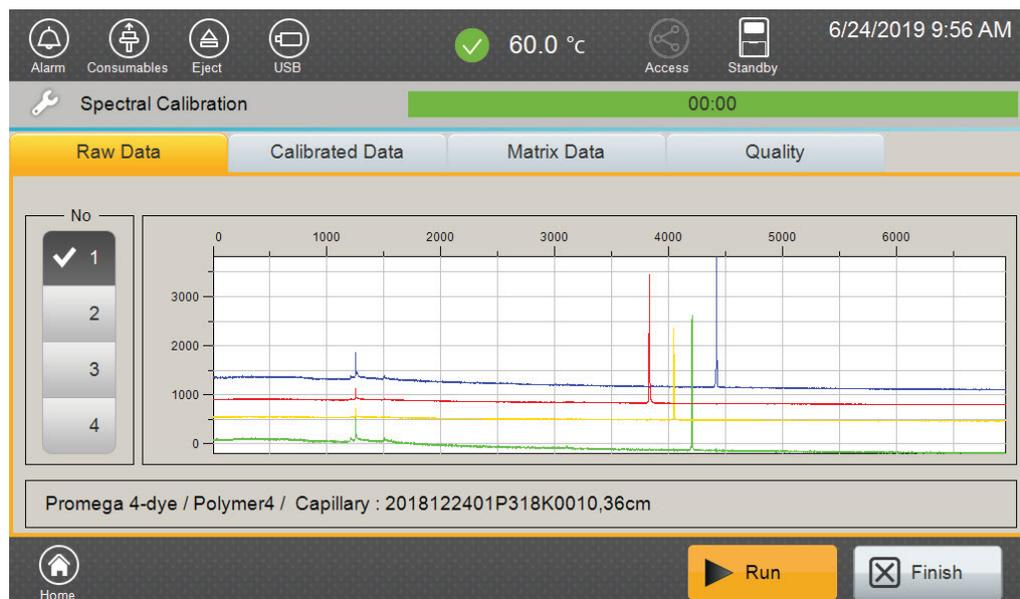

Figure 38. Spectral Calibration 'Raw Data Tab' screen.
1. Following the run, the 'Raw Data' tab (Figure 38) will be displayed. The minimum peak height for spectral calibration is 500 relative fluorescent units (RFU) and the maximum peak height is 32,767RFU.